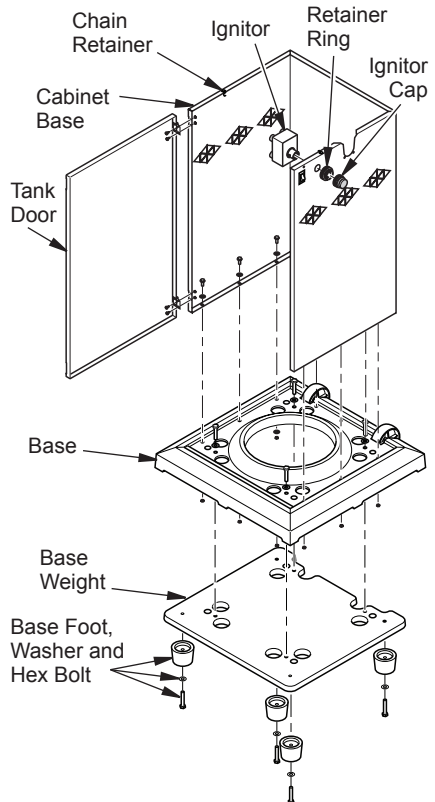

Figure 4 - Cabinet Base Assembly
2. Attach 4 base feet to base weight with 4 washers (B) and 4 screws (A) as shown in Figure 4. Feet will install over raised areas underneath base weight.
3. Being careful not to scratch paint, lay cabinet base onto back side (use foam packaging block to support rear top of cabinet base). Align holes in bottom edges of cabinet base with holes in base as shown in Figure 4. Attach with 1 screw (C), 1 washer (D) and 1 nut (E) for each of the 9 holes (see Figure 4). Set assembly upright.
4. Attach base to weight with 4 screws (A) and 4 washers (B) as shown in Figure 4.
5. Install chain retainers ("S" hooks) to upper edges of cabinet base as shown in Figure 4.
6. Install electronic ignitor through cabinet wall as shown in Figure 4. Hand tighten.
7. Attach tank door to cabinet with 4 screws (F) and 4 nuts (G) as shown in Figure 4. Set entire assembly aside.